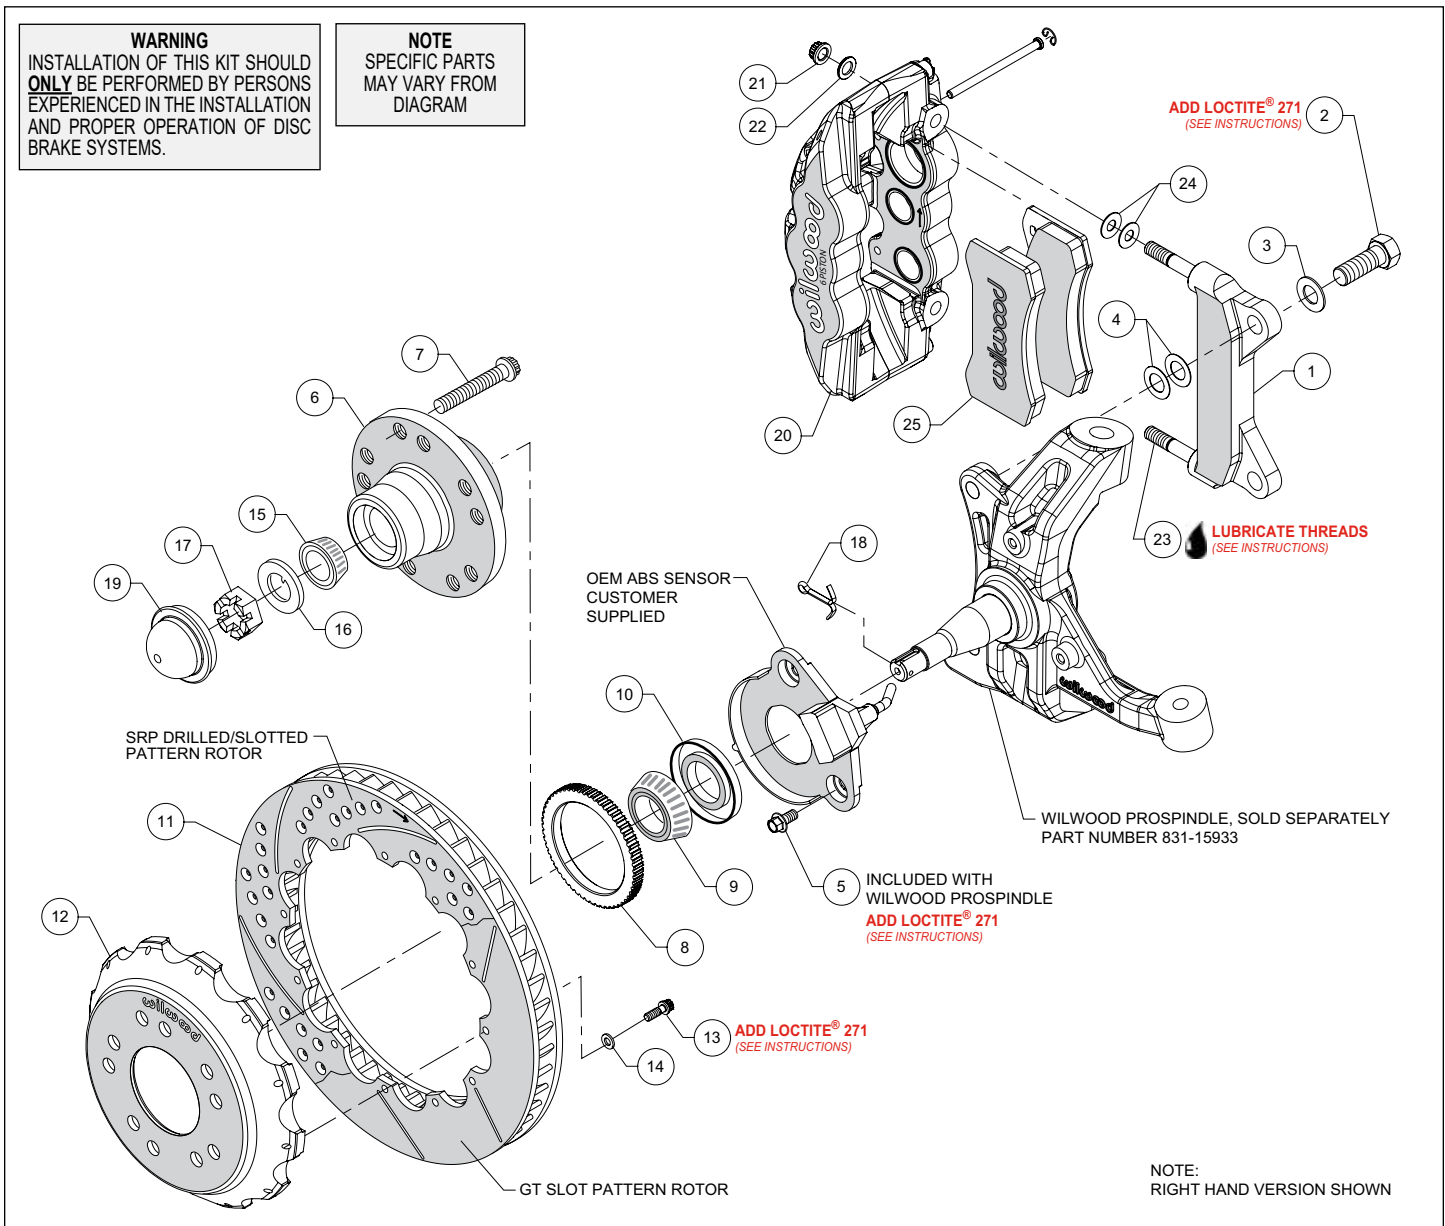
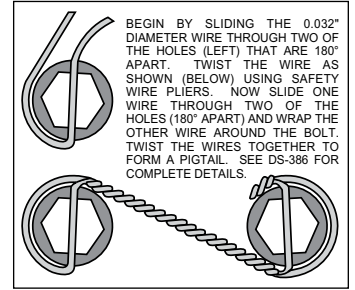

Figure 1. Typical Installation Configuration
Figure 3. Safety Wire Diagram
NOTE: Numbers in parenthesis refer to the parts list and Figure 1 on the preceding pages.
- For vehicles equipped with ABS, install the OEM ABS sensor (customer supplied) to the spindle using bolts (5) as shown in Figure 1 and Photo 3. Temporarily tighten the mounting bolts. **NOTE: The sensor must fit squarely against the mount bosses on the spindle.** Inspect for interference from casting irregularities, machining ridges, burrs, etc. Remove the bolts one at a time and apply red *Loctite*® 271 to the threads, and torque to 20 ft-lb.
- The caliper mount bracket (1) should initially be installed with clean, dry threads on the mounting bolts. Orient the bracket, as shown in Figure 1 and Photo 4, and install using bolts (2) and washers (3). Initially place two .024" thick shims (4) on each bolt between the bracket and spindle, Figure 1. Temporarily tighten the mounting bolts. **NOTE: The bracket must fit squarely against the mount bosses on the spindle.** Inspect for interference from casting irregularities, machining ridges, burrs, etc. Later, after the caliper alignment has been checked, the mount bolts will be secured using red *Loctite*® 271.
- Install wheel studs (7) into the hub (6), Photo 5. Torque to 77 ft-lb. **NOTE: There are two five lug patterns in the hub (5 x 4.75 and 5 x 5.00).** Ensure the correct hub stud pattern is being used to fit the wheel application.
- For vehicles equipped with ABS, carefully press the ABS ring (8) onto the backside of the hub (6) as shown in Figure 1 and Photo 6.
- Pack the large inner bearing cone (9) with high temperature disc brake bearing grease (available from your local auto parts store) and install into the backside of the hub (6), Photo 7.
- Install the grease seal (10) by pressing into the backside of the hub (6), flush with the end of the hub, Photo 7.
- Press the dust cap (19) into the hub (6). **NOTE:** Do not hammer center of cap. Install using outer flange only.
- Orient the rotor (11) and the hat (12) as shown in Figure 1 and Photo 9. Attach rotor to hat using bolts (13) and washers (14). Using an alternating sequence, apply red *Loctite*[®] 271 to the threads, and torque to 155 **in-lbs**. For an added measure of security, the bolts may be safety wired using standard 0.032 inch diameter stainless steel safety wire as shown in Figure 3. Refer to Wilwood's data sheet DS-386 (available at www.wilwood.com/Pdf/DataSheets/ds386.pdf) for complete safety wire installation instructions.
- Slide the hat/rotor (12 and 11) onto the hub (6), Photo 10. **NOTE:** The hat must fit flush against the hub face or excessive rotor run out may result. Install three lug nuts (finger tight) to keep the hat/rotor in place while continuing with the installation.
- NOTE:** This kit contains distinct right and left hand calipers that must be mounted in a specific direction, as described below. Lubricate the caliper mounting studs (23) with lightweight oil. Initially place two .030" thick shims (24) on each stud between the caliper and the bracket, as shown in Figure 1 and Photo 11. Mount the caliper (20) onto the bracket (1) using lock nuts (21) and washers (22), Figure 1. Temporarily tighten the lock nuts. Ensure that the caliper is mounted so that the largest pistons are at the rotor exit end of the caliper, in relation to the direction of rotor rotation. View the rotor through the top opening of the caliper. The rotor should be centered in the caliper, Photo 12. If not, adjust by adding or subtracting shims (4) between the bracket and the spindle. Always use the same amount of shims on each of the two mounting bolts. Once the caliper alignment is correct, remove the bracket mounting bolts one at a time, apply red *Loctite*[®] 271 to the threads, and torque to 140 ft-lb.
- Remove the caliper (20), then remove the two pad retaining pins from the caliper by carefully popping out the pin retaining clips and sliding out the pins. Insert the brake pads (25) into the caliper from the bottom, Figure 1 and Photo 13. With the friction material facing the rotor, secure the brake pads in place with the pad retaining pins and clips, Photo 14. Reinstall the caliper onto the caliper mounting bracket and temporarily tighten the lock nuts. Check that the top of the brake pad is flush with the outside diameter of the rotor, Photo 15. If not, adjust by adding or subtracting shims (24) between the caliper (20) and the bracket (1). After the caliper pad height is set, torque the caliper lock nuts (21) to 47 ft-lb.